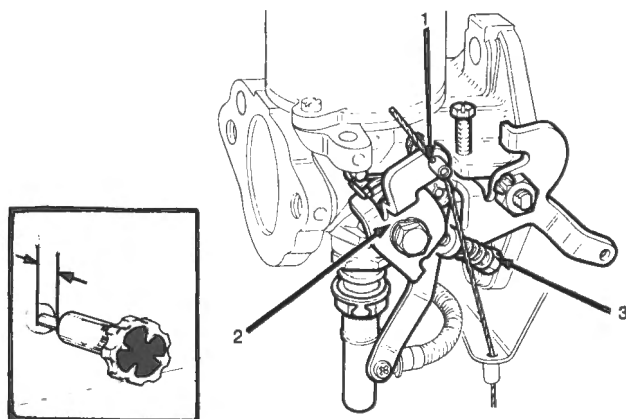

Fig. G-2
- 1 Disconnect the choke cable (1) Fig. G-2.
- 12 Reconnect the choke cable (1) with approximately 1/16 in free movement before it starts to pull on the jet lever (2). Fig. G-2.
- 13 Pull the choke knob until the linkage is about to move the carburetter jet and adjust the fast idle screw (3) to give an engine fast-idle speed of 1000 to 1100 rpm with the engine at normal operating temperature.